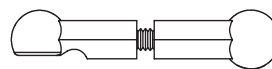

Figure 55B
- ❑ 1. Thread a short plastic Rod End (148) onto each end of the 4-40 x 5/8" Set Screw (149).
- ❑ 2. Refer to Table 52B to determine the appropriate Servo Link length for the servo that is installed. Tighten both sides equally until the Rod is the same length as the one shown in Figure 55B or 55C.